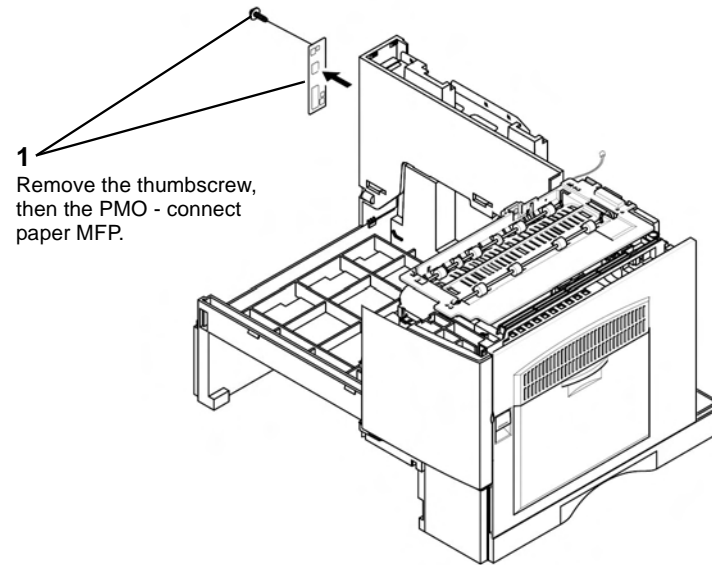

Figure 1 PMO - connect paper MFP removal
3. Remove the PMO - connect paper MFP, Figure 1.